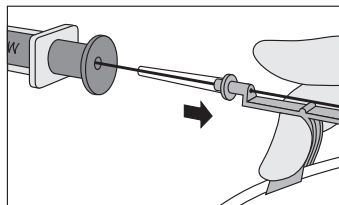

Fig. 5
- Raise thumb and pull Arrow Advancer approximately 4 - 8 cm away from Arrow Raulerson Syringe or introducer needle. Lower thumb onto Arrow Advancer and while maintaining a firm grip on SWG, push assembly into syringe barrel to further advance SWG. Continue until SWG reaches desired depth (refer to Fig. 5).